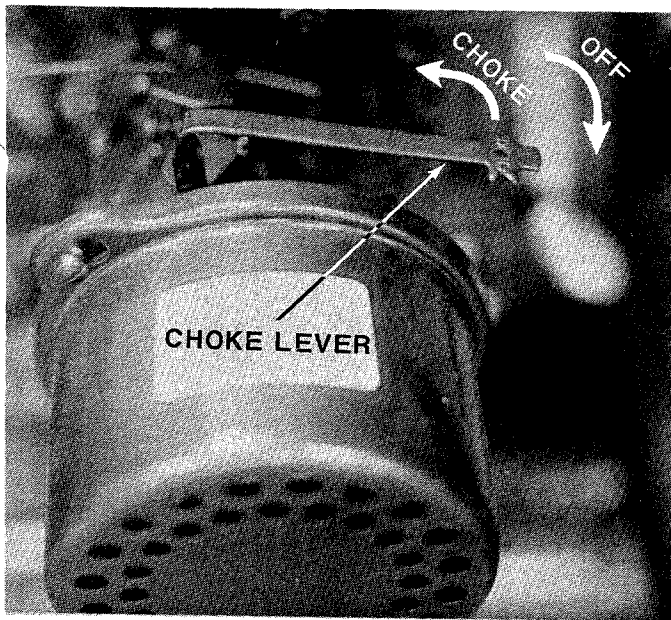

FIGURE 9
2. Move choke lever to CHOKE position. See figure 9.